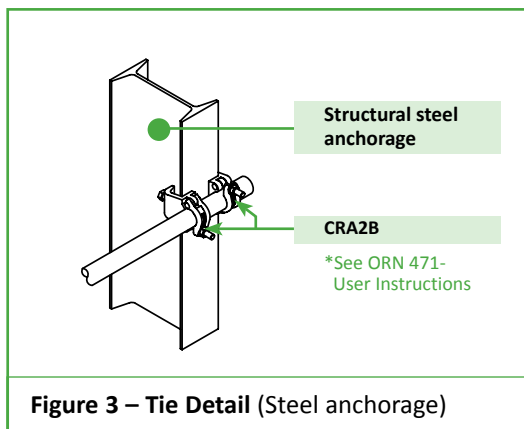
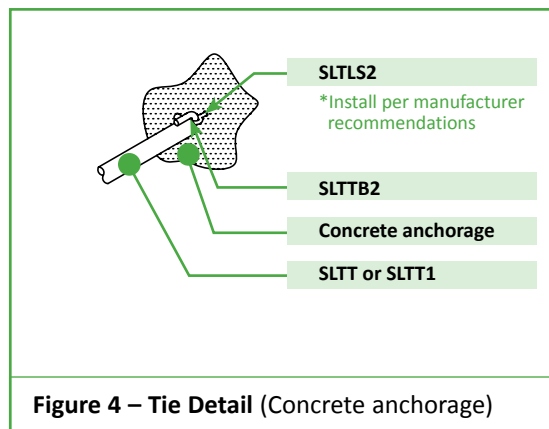

Figure 3 – Tie Detail (Steel anchorage)
Figure 4 – Tie Detail (Concrete anchorage)
4. Install anchors (Fig. 3 and Fig. 4). For tying options not shown, contact the BrandSafway Engineering Department.